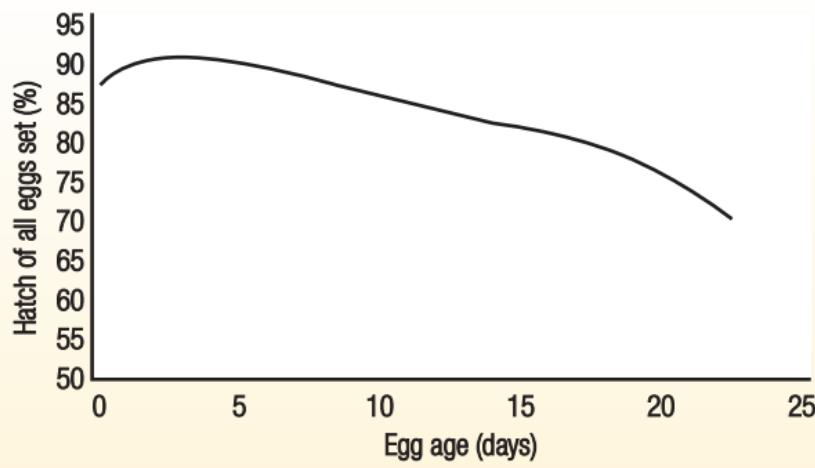

Fig. 1. Hatchability falls as egg age increases.
- Eggs stored for more than a few days will not hatch as well as eggs set when they are 3-4 days old (Fig. 1).